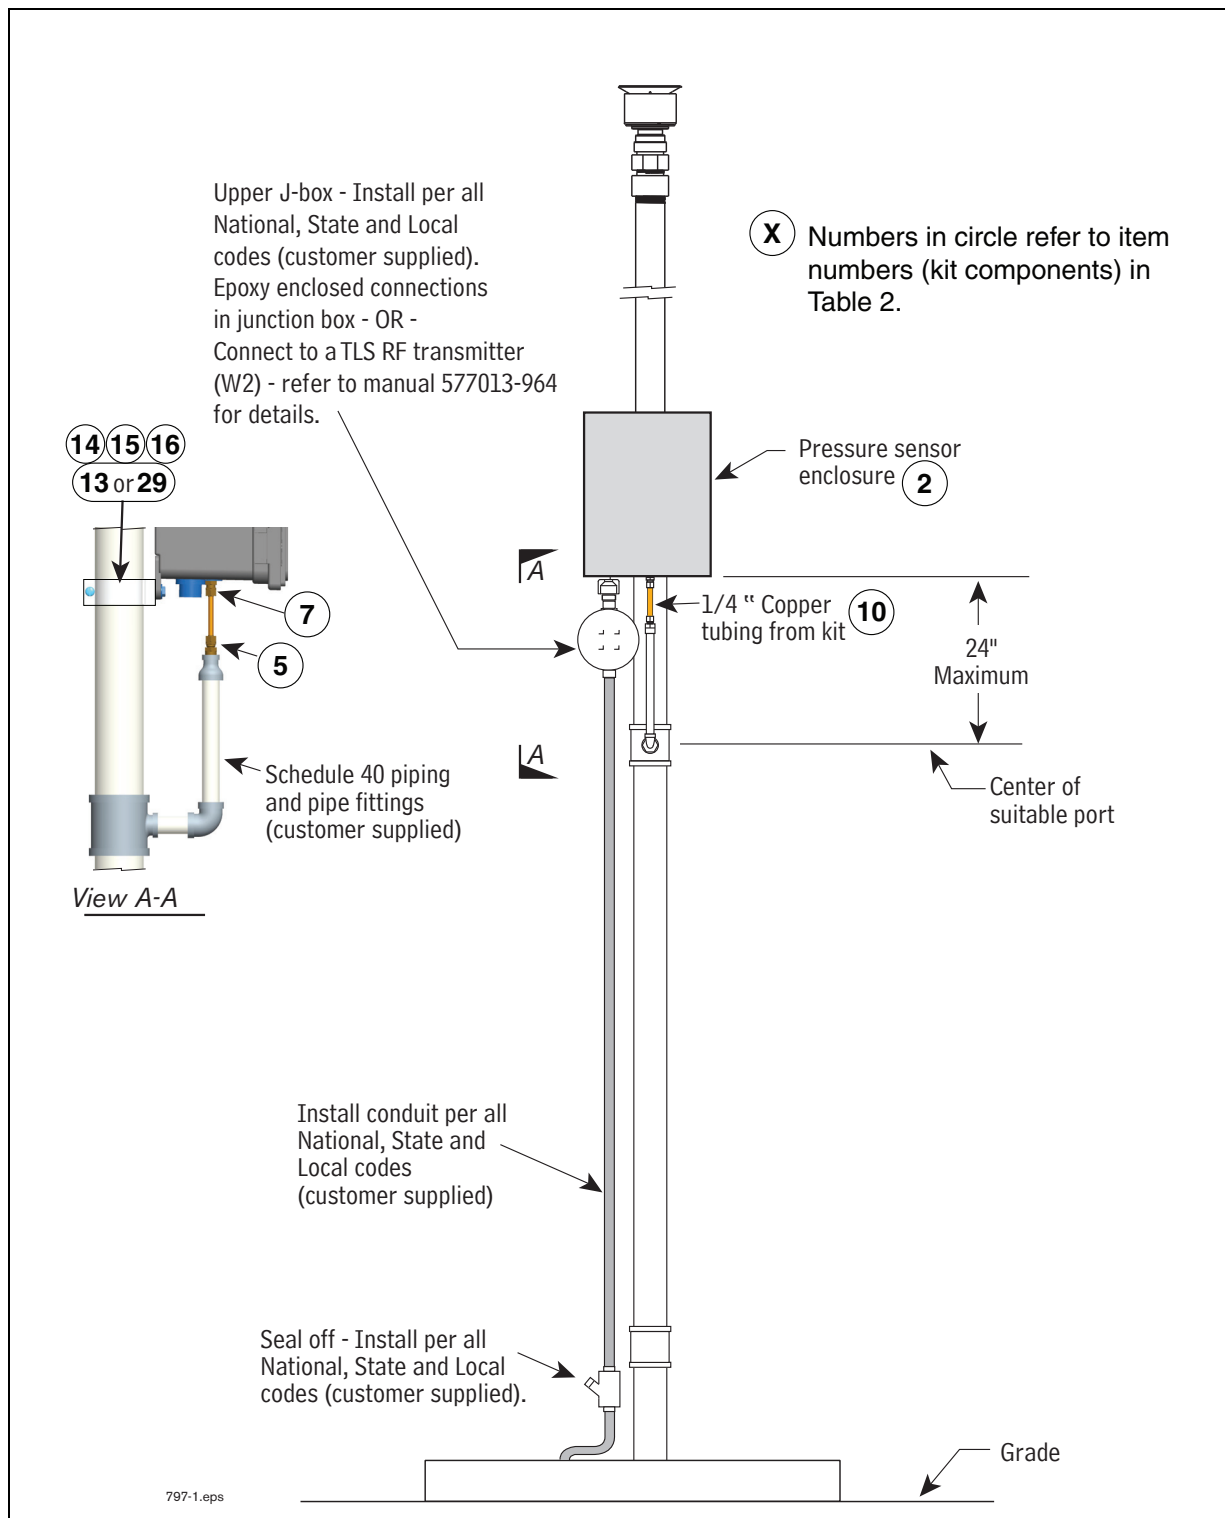

Figure 1. Locating Direct-Wired VPS Sensor Enclosure on Vapor Vent Stack
3. Locate a suitable port in an existing Schedule 40 piping fitting (tee, cross, etc.) or plumb a suitable Schedule 40 pipe fitting (tee, cross, etc.) into the vapor vent stack line (maximum length of copper tubing limited by dimension in Figure 1).
17. Mount the plastic enclosure onto the vapor vent stack or suitable rigid structure ABOVE the vapor vent stack port using two conduit clamps (for 2" or 3" pipe), bolts, nuts, and washers included, or use other customer supplied suitable mounting hardware (Example: Unistrut®). Leave the mounting hardware somewhat loose for later enclosure height adjustment (see Figure 1).
19. Install one 68CA-4-4 male connector (item 1 in Table 3) onto the top of the new pipe (see View A-A, Figure 1).
20. Measure, fabricate, and install 1/4" OD copper tubing (item 6 in Table 3) between the bulkhead union and the male connector. Adjust the enclosure vertically on vent pipe to make sure the copper tube is fully inserted into the bulk head union and male connector.
23. When direct wiring to a TLS console, install 1/2" electrical conduit from the conduit hub in the bottom of the enclosure to the customer supplied weather-proof junction box (see Figure 1).